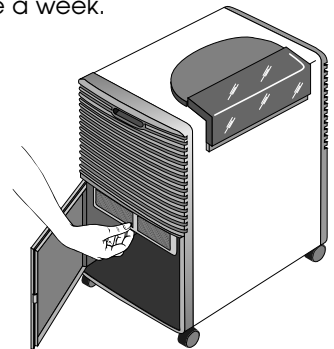

fig.5
- To remove the air filter, extract by pulling it as shown in fig. 5.